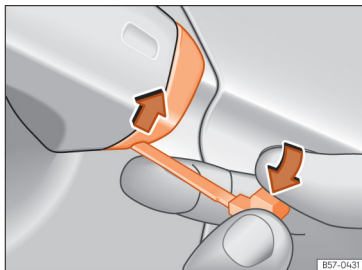

Fig. 94 Driver door handle: lever the cover off
- Insert the emergency key into the lower opening in the cover on the driver door handle »» Fig. 94 then lift the bottom cover upwards.